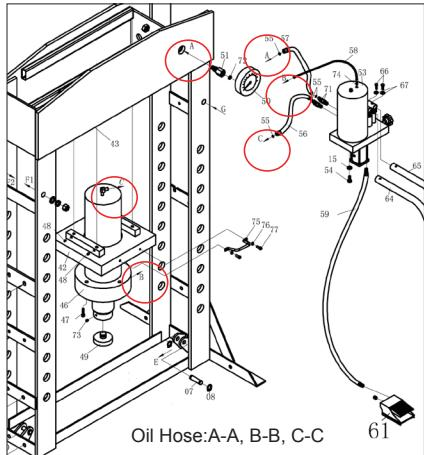
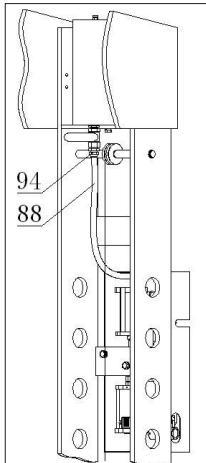
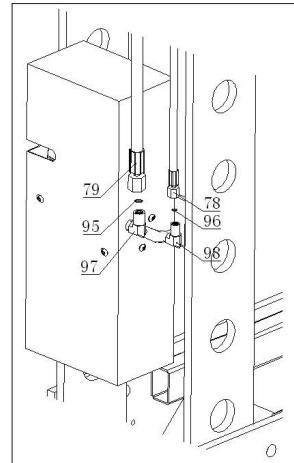

Fig.08
Fig.10
Fig.11
- Assemble oil hose :Fig.08 (CP86750), Fig.10 ,Fig.11 (CP86100).
• Operate by air: Depress the air foot valve(61,Fig.08)